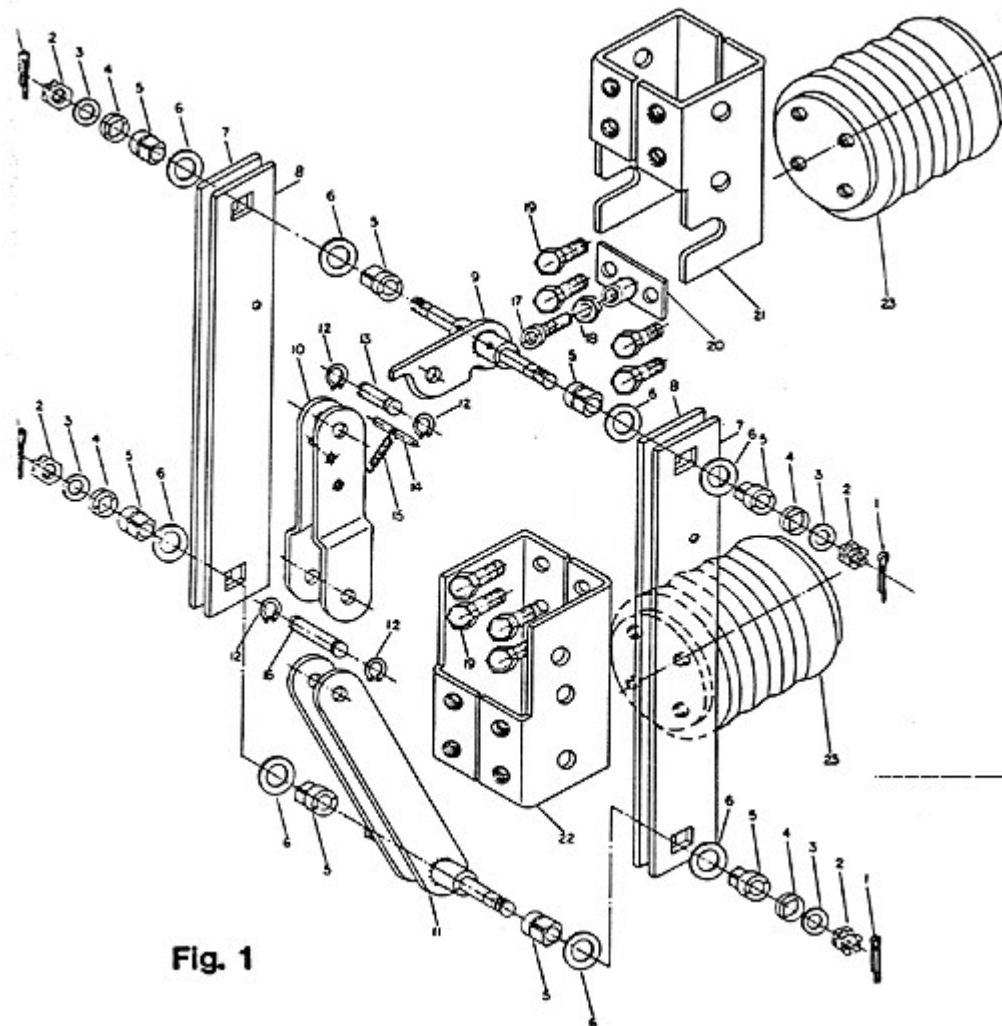

Fig. 1
I. Contact Pressure Adjustment (Figure 1)
1. The linkage arms (Items 10 and 11 of Figure 1), must be in a straight line when the main blades are fully on the jaw contact and locked. (See Figure 2).
ment of the linkage arms (Items 10 and 11 Figure 1). Retighten the jam nut firmly at the forward end of the insulated push rod, after it has been reconnected to the switch throw shaft lever arms (See Figure 3).
4. The linkage actuating bolt (Item 17, Figure 1) must be set to the proper dimension indicated at 'x' in Figure 2.
- x = 2.12" for 2000A switches (Item 17, Fig. 1)
- x = 2.31" for 3000A switches (Item 17, Fig. 1)
5. After all adjustments are correctly made, the clamping pressure of the closed main blades and the jaw should be high enough to prevent movement of the main blades when they are subjected to a pulling force of 200 pounds minimum, applied directly from a point immediately below the jaw contact and normal to the vertical axis of the main blades in an outward direction. If the main blades can be moved with the 200 pound force, readjust the slotted nuts (Item 2, Figures 1 and 2) another 1/6 to 1/3 revolution in a tightening direction when the main blades are closed and locked. This will put more clamping pressure on the jaw contacts when the linkage toggles and closes as the switch moves to the closed position. A contact resistance reading should be taken and the acceptable values should be between 10 and 20 micro-ohms, taken across the line and load terminal pads on each phase.
(Refer to Figures 1, 2, & 3)**